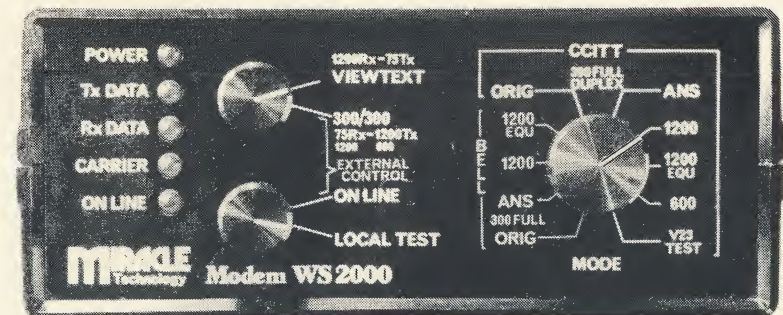

Figure 3
3.1 To communicate with a Viewtext database such as Prestel, Micronet or Telecom Gold, set the modem switches as shown in Figure 3.